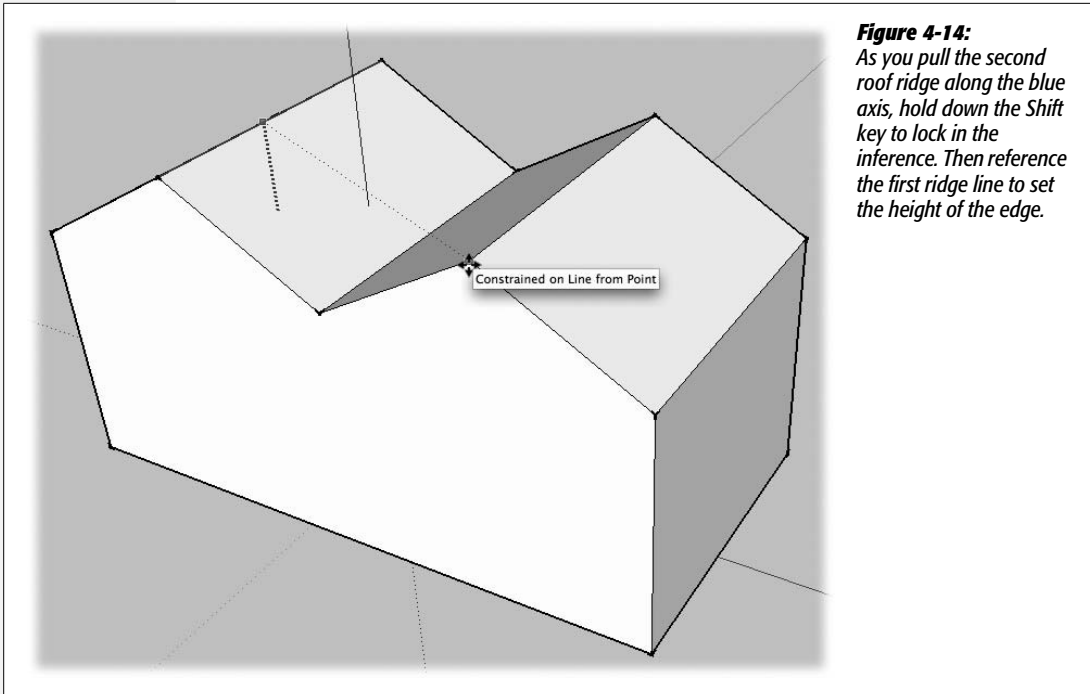

Figure 4-14:
Use the Move (M) tool to pull up one of the lines to create a peaked roofline. When the movement is along the blue axis, you see a blue dotted line and a tooltip message that says “On Blue Axis”. Press and hold Shift to lock the movement to that axis. Click to complete the movement and the reshaping of the roofline. Next click one of the other lines in the roof, as shown in Figure 4-14. Pull it up in the same manner, locking it to the blue axis. Then move your cursor over to the first ridgeline and click. This creates two roof ridges of exactly the same height.